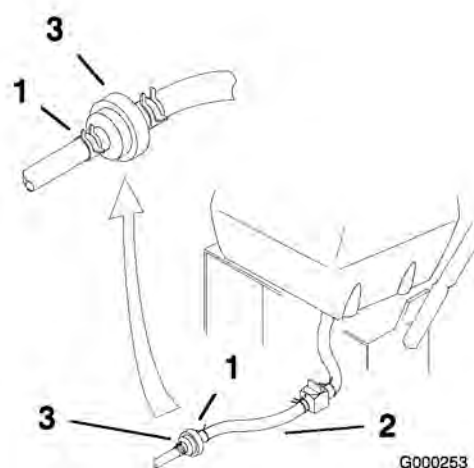

Figure 34
- Squeeze the ends of the hose clamps together and slide them away from the filter (Figure 34).